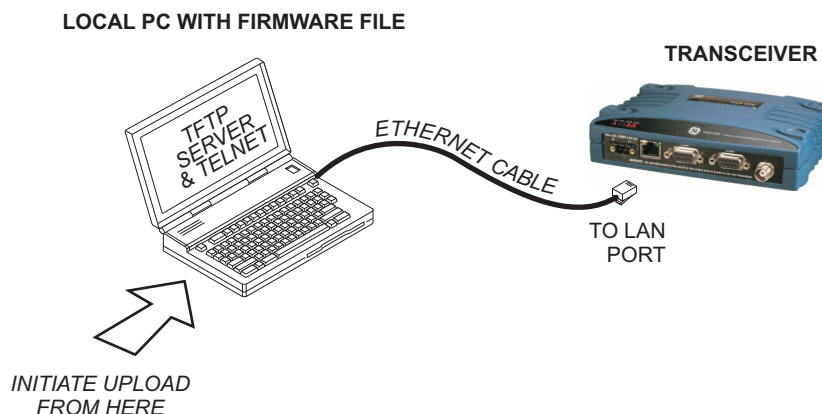
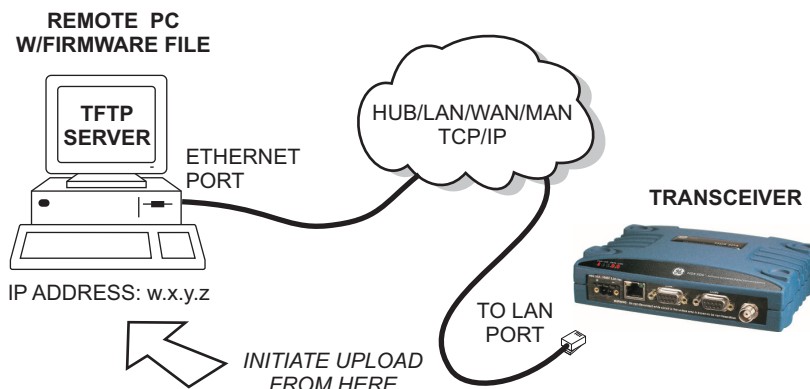

Figure 20. Firmware Upgrade Setup—Option 1
Figure 21. Firmware Upgrade Setup—Option 2
There are several alternatives to connecting the transceiver for firmware upgrade. Figure 20 and Figure 21 show two common methods. *It is essential that all of the equipment be on the same subnet.*
1. Connect an Ethernet cable between the radio's LAN port and the PC (refer to Figure 20 or Figure 21, as applicable). Verify that the yellow LED on the radio's LAN port lights and stays lit. This verifies that the network is functioning.